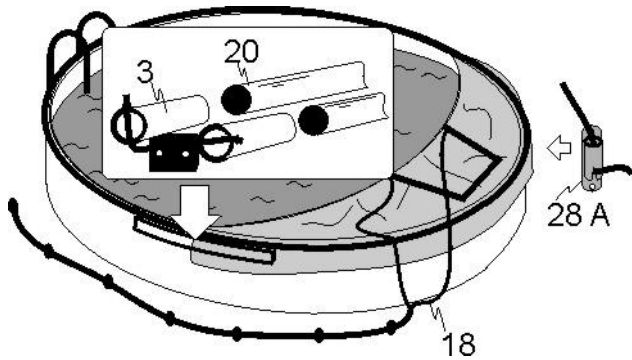

Abb. 7.1
Pulling Cabrio Dome over swimming pool (fig. 7.1 to 7.4)
- Put the Cabrio Dome on the swimming pool edge opposite the swimming pool stairs. Cabrio Dome entrance and the pulling rope (18) must lie above (fig. 7.1).
- Put the ends of both arches (20) into tubes (3). **Put the underlying arch into the right tube and the above lying arch into left tube when the swimming pool stairs is on your left.** When the swimming pool stairs is on your right, put the arches into tubes vice versa.
Before pulling the Cabrio Dome over the swimming pool make sure, that the rope which is connected on one end to the foil is on the other end fastened to the fastener (28/A). (fig 7.1). If not, the Cabrio Dome can collapse on the other side while pulling.